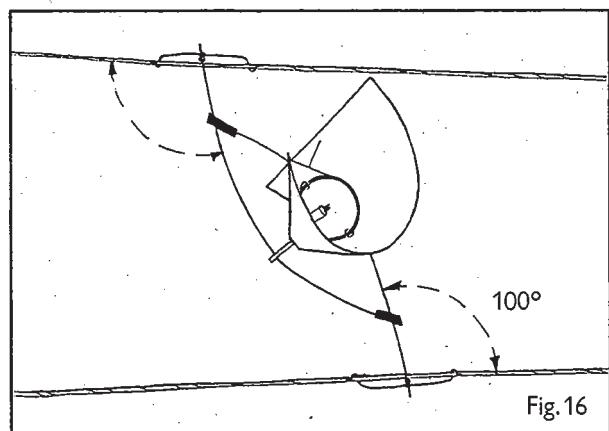

Fig. 16
- The lighting elements (see above for assembly instructions) must be attached to the lower cable and one of the two upper cables. Attach the element to the cables in the manner shown in Fig. 16; i.e. so that the ends of the wire hangers are at a roughly 100° angle to the cables and the retaining springs are approximately parallel with the cables. Otherwise you will not be able to fit the retaining springs properly onto the cables.